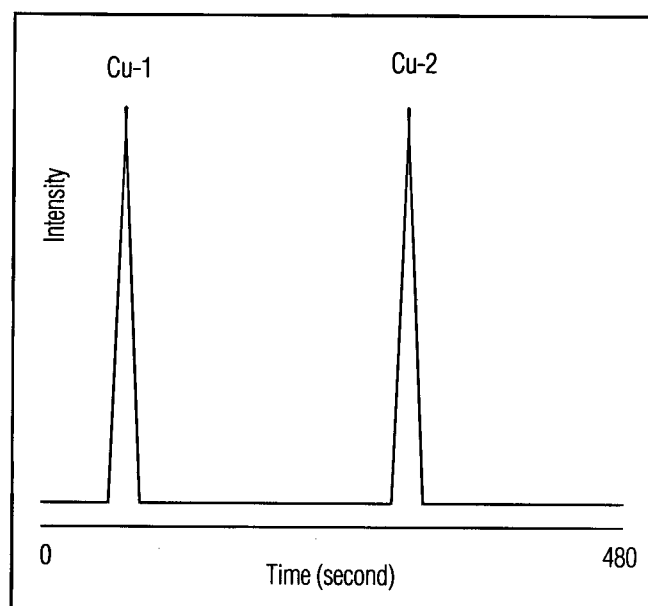

Figure 1 A typical ICAP time scan.
The sample pretreatment system allows two measurements per run. A typical ICAP time scan is shown in Figure 1. Using 10 mL sample concentration, the ICAP detection limit is lowered at least 50 fold for most metals. It is important to use reagents and water which have very low metal contamination. Any trace metals in the reagents will be concentrated as a "blank" and subsequently eluted
7. The results of the time scan displayed on the screen should look like Figure 1. For concentrated elements, two discrete regions are present in the time scan. The first region is the first concentration band. This represents the concentrated sample from the IonPac CG5-column 1. The second region represents the second band and is subsequently eluted off the IonPac CG5-column 2. Press F1, Expand, and move the cursor to determine the time at which the peak begins to elute. Note this time for comparison to the next run. Determine the width of the peak at the base using the cursor. Typical base width is 20 to 30 seconds.